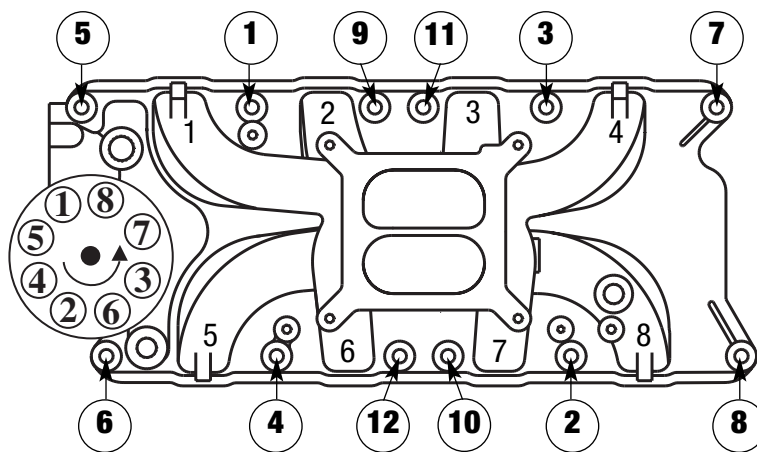

Figure 2 - 260-289-302 Ford Torque Sequence
- 5) Install the intake manifold and hold-down bolts. Torque all of the manifold bolts in two steps by the sequence shown in Figure 2 to 18-20 ft/lbs.